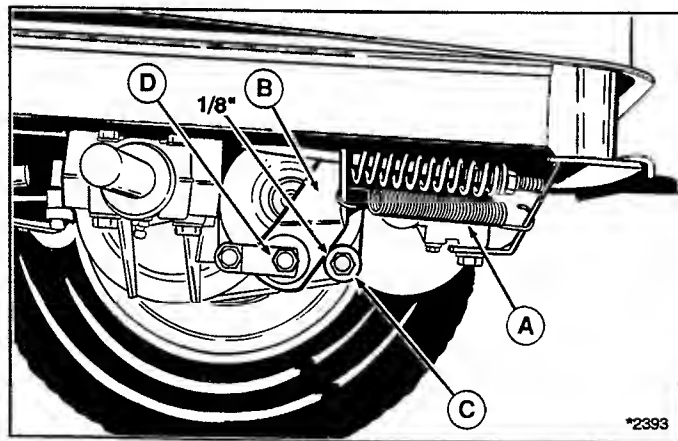

Figure 26. Brake Adjustment (Gear Model shown)
2. Remove the tension spring (A, figure 26).
3. Move the brake cam (B) forward. On gear models there should be a $1/8"$ gap between the cam (B) and the spacer (C). On hydro models, there should be $1/8"$ gap between the cam (B) and the transaxle cam stop (similar to location of spacer (C) as shown in figure 26).
4. To adjust clearance, turn the nut (D) clockwise to tighten nut and decrease gap. Turn nut counterclockwise to loosen nut to increase gap.